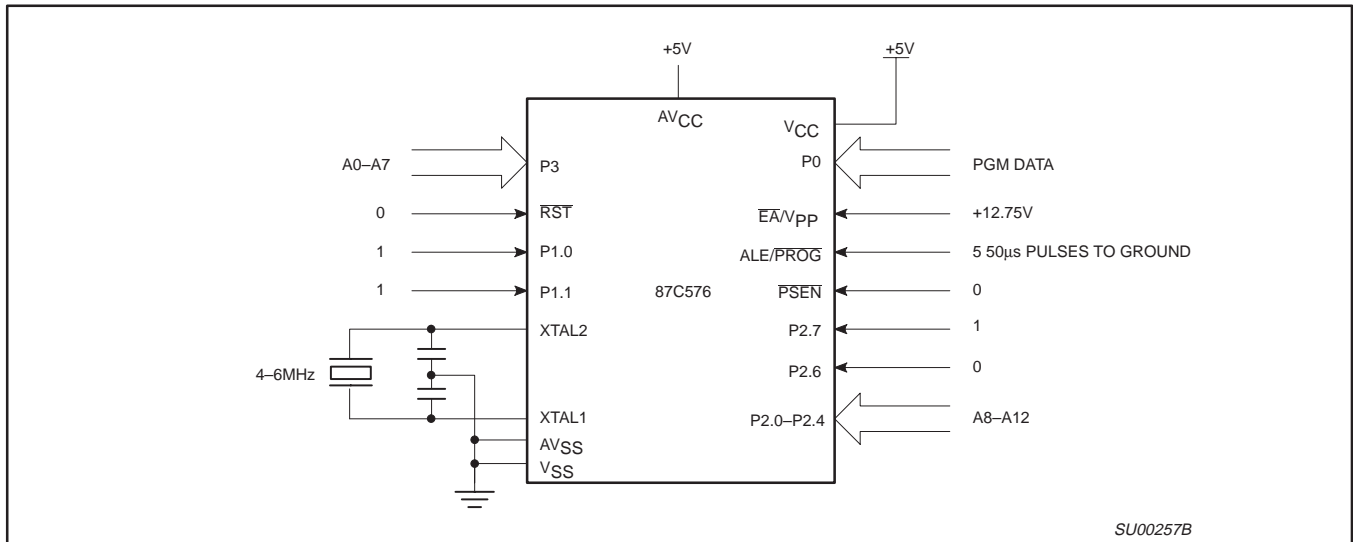
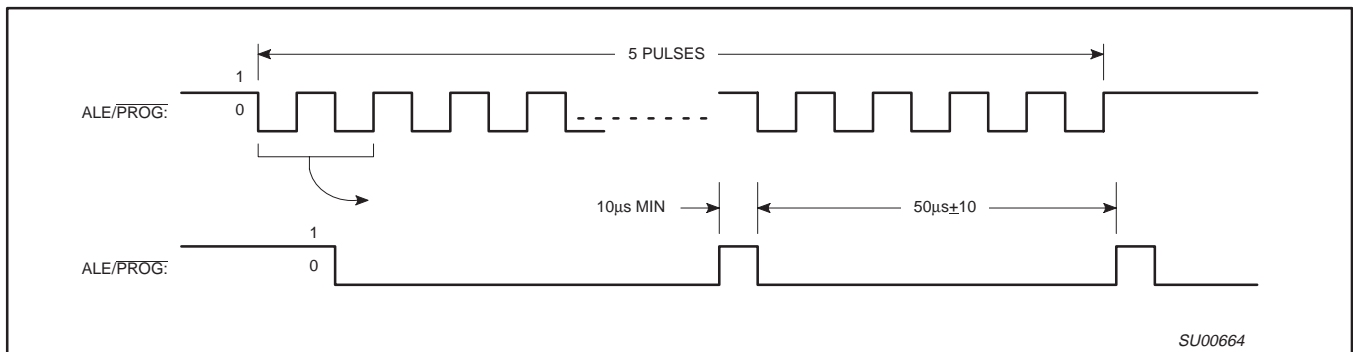
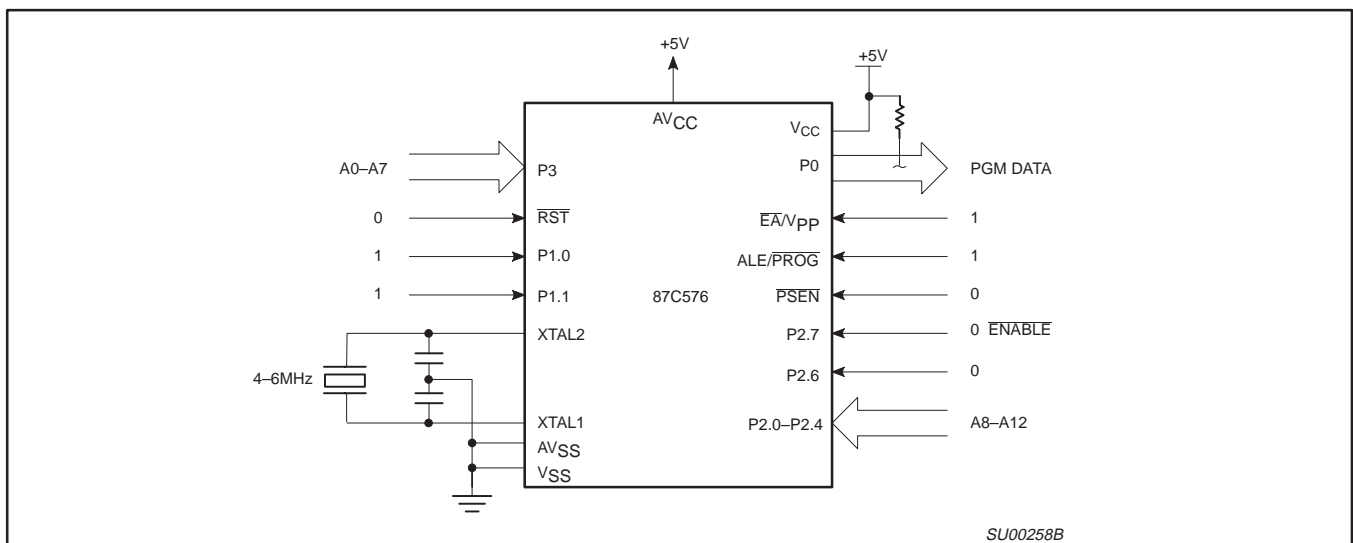

Figure 38. Programming Configuration
Figure 39. PROG Waveform
Figure 40. Program Verification
Table 3 shows the logic levels for reading the signature byte, and for programming the program memory, the encryption table, and the security bits. The circuit configuration and waveforms for quick-pulse programming are shown in Figures 38 and 39. Figure 40 shows the circuit configuration for normal program memory verification.
The setup for microcontroller quick-pulse programming is shown in Figure 38. Note that the 87C576 is running with a 4 to 6MHz oscillator. The reason the oscillator needs to be running is that the device is executing internal address and program data transfers.
The address of the EPROM location to be programmed is applied to ports 3 and 2, as shown in Figure 38. The code byte to be programmed into that location is applied to port 0. RST, \overline{PSEN} and pins of ports 2 and 1 specified in Table 3 are held at the 'Program Code Data' levels indicated in Table 3. The ALE/ \overline{PROG} is pulsed low 25 times as shown in Figure 39.
If security bit 2 has not been programmed, the on-chip program memory can be read out for program verification. The address of the program memory locations to be read is applied to ports 3 and 2 as shown in Figure 40. The other pins are held at the 'Verify Code Data' levels indicated in Table 3. The contents of the address location will be emitted on port 0. External pull-ups are required on port 0 for this operation.
* FOR PROGRAMMING VERIFICATION SEE FIGURE 38.
FOR VERIFICATION CONDITIONS SEE FIGURE 40.